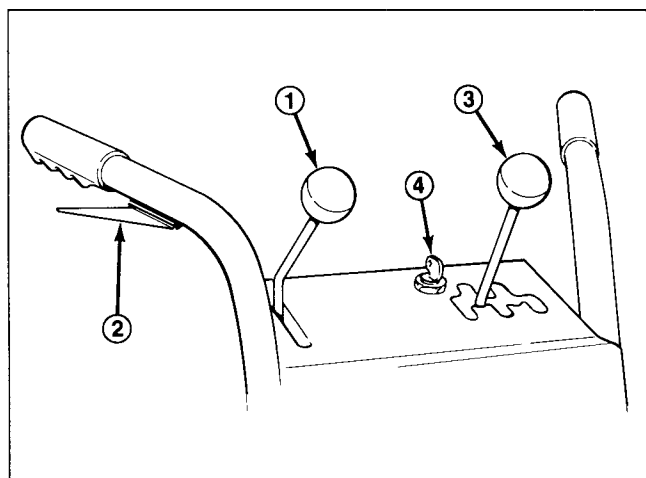

Figure 13
Interlock Lever (Fig. 13)—Interlock lever must be compressed against right handle grip when auger drive or wheel drive control is engaged. The engine will shut off if lever is released when auger drive or wheel drive control is engaged. **Check the interlock system every time snowthrower is used.** Refer to Checking Safety Interlock System, page 12.
Auger Drive Control (Fig. 13)—Control has two positions: ON (engage) and OFF (disengage). To engage auger and impeller, push control forward to front of slot. To disengage auger and impeller, pull control backward.
Wheel Drive Control (Fig. 13)—The control has seven positions: N—neutral (2), R1 and R2—reverse, 1, 2, and 3. To change speeds, move gear shift to position desired. Control must be held in R—reverse—when backing. When released, gear shift automatically returns to neutral. Use positions 1, 2, and 3 depending on snow conditions. Keep interlock lever compressed when shifting.
Ignition Switch (Fig. 13)—Switch has two positions: ON and OFF. Rotate key to ON position before starting engine with the recoil starter. To stop engine, rotate key to OFF.